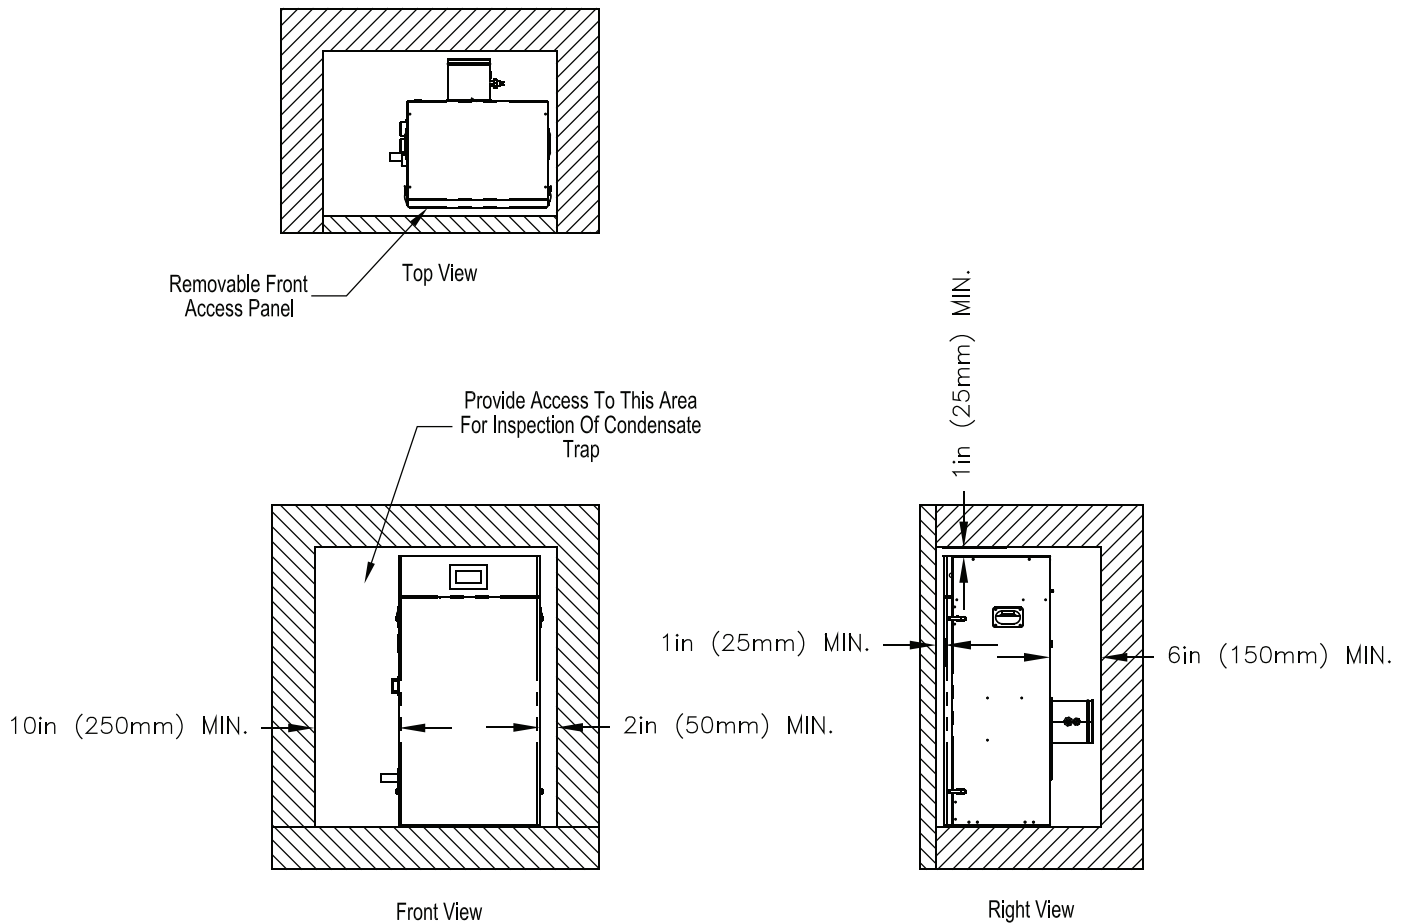

Figure 2: Clearances To Combustible and Non-combustible Material, Floor Standing
- C. Provide clearance** between boiler jacket and combustible material in accordance with local fire ordinance. Refer to Figure 2 for minimum listed clearances from combustible material. Recommended
- b. Maintain minimum clearance to combustible materials. See Figure 2 for details.